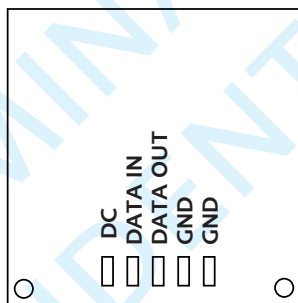

Figure 4-1: Electrical Connections view from solder side
The J3-A module has five (5) electrical solder tabs for electrical connections on the underside of the board. Input supply voltage and serial transmit and receive data connections are shown in Figure 4-1 below.